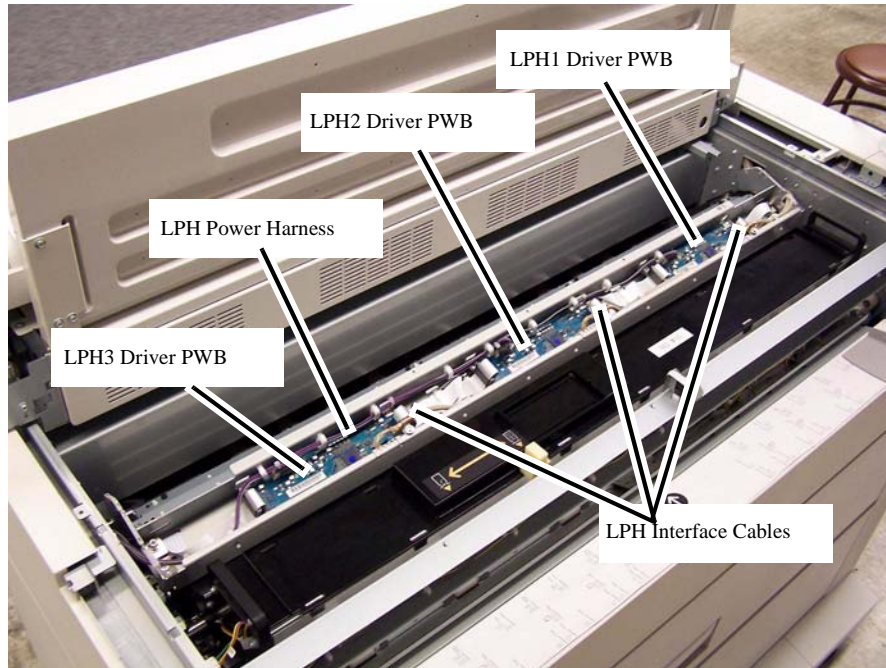

Figure 1 LPH component orientation
5. Locate on the LPH Assembly the components which will be disconnected and/or removed (Figure 1).